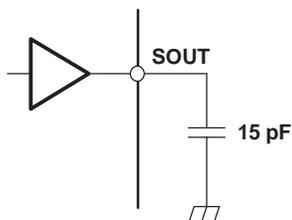
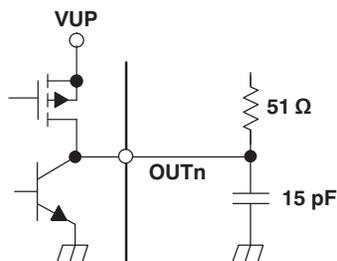
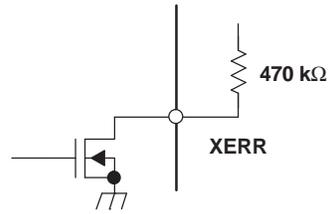

Figure 4. Test Circuit for t_{r0} , t_{f0} , t_{pd0} , t_{pd1}
Figure 5. Test Circuit for t_{r1} , t_{f1} , t_{pd2} , t_{pd3} , t_{pd5} , t_{td}
Figure 6. Test Circuit for t_{pd4}
- (1) See Figure 4. Defined as from 10% to 90%
- (2) See Figure 5. Defined as from 10% to 90%
- (3) See Figure 4, Figure 16
- (4) "↑" and "↓" indicates a rising edge, and a falling edge respectively.
- (5) See Figure 5 and Figure 16
- (6) See Figure 5, Figure 6, and Figure 16
- (7) See Figure 5